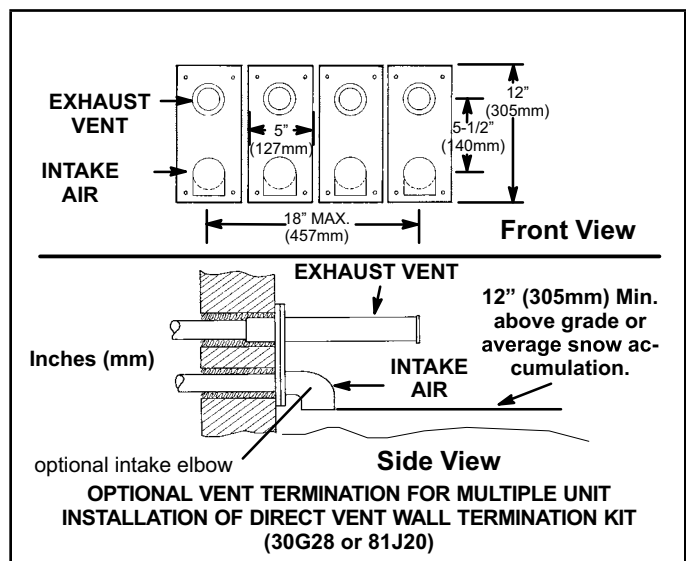

FIGURE 43
- 8 - A multiple furnace installation may use a group of up to four terminations assembled together horizontally, as shown in FIGURE 43.